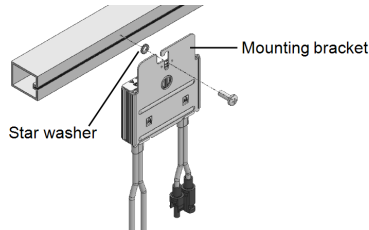

Figure 4: Power optimizer installation and grounding using a star washer
1. Determine the power optimizer mounting location and use the power optimizer mounting brackets to attach the power optimizer to the support structure (See *Figure 4*). It is recommended to mount the power optimizer in a location protected from direct sunlight. For frame-mounted power optimizers follow the instructions supplied with the optimizers, or refer to https://www.solaredge.com/sites/default/files/installing_frame_mounted_power_optimizers.pdf.
- For mounting on a grounded metal rail:** Use the provided 5/16" stainless steel grounding star washer between the railing and the flat side of the mounting bracket. The grounding washer should break through the anodize coating of the railing to ensure low resistive connection. Apply torque of 9.5 N*m / 7 lb*ft. See *Figure 4*.